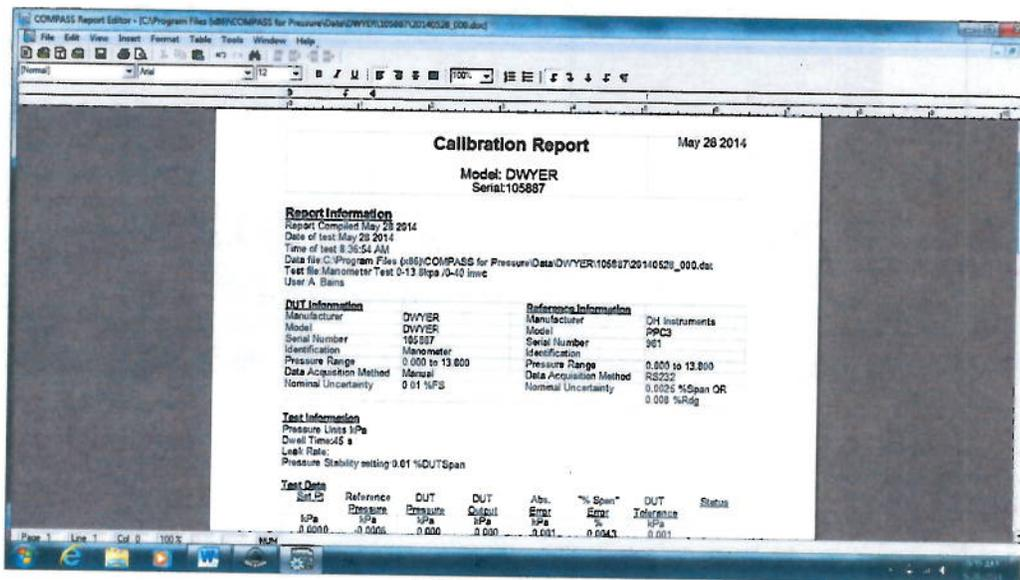

Figure 29
- 11.29 Print the report. See Figure 29.